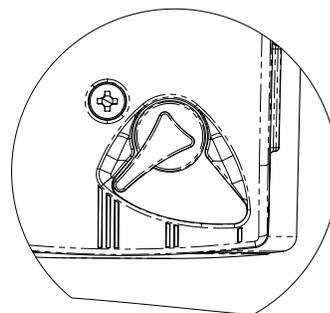

Figure 15-2: Pump Speed Setting
5. Verify boiler and system are full of water and pressurized. Verify pump speed is set to 3. (Figure 15-2) Pump located on right side of boiler.